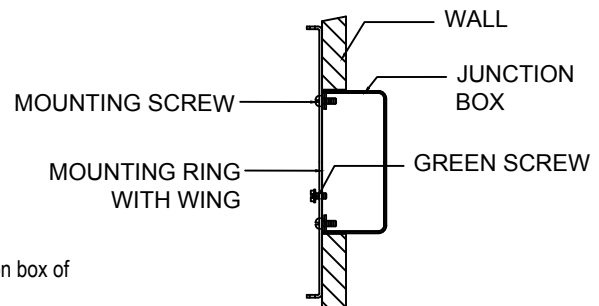

FIGURE-01
1. Attach the mounting ring with wing to the junction box using mounting screws. (The green screw should face out). (See FIGURE-01)